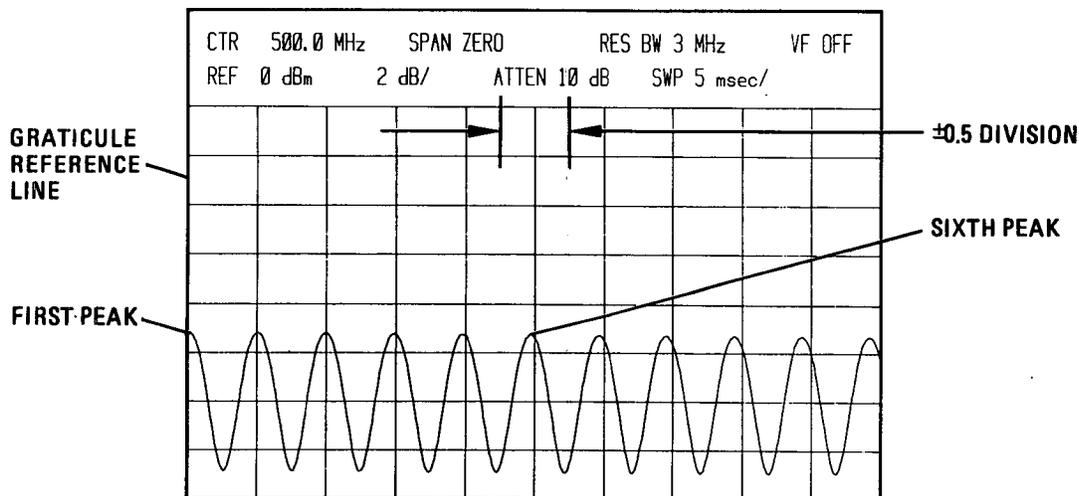

Figure 4-23. Sweep Time Accuracy, 5 mSEC/DIV
10. Use Table 4-21 to check sweep time accuracy for sweep times of 5  $\mu$ SEC through .1 SEC. For these sweep times, 10 sweeps will be displayed. Adjust TRIGGER LEVEL of spectrum analyzer to place a peak of sine wave on graticule reference line. Sixth peak from reference should be within  $\pm 0.5$  divisions of center graticule line. (See Figure 4-23 for an example of this display.)